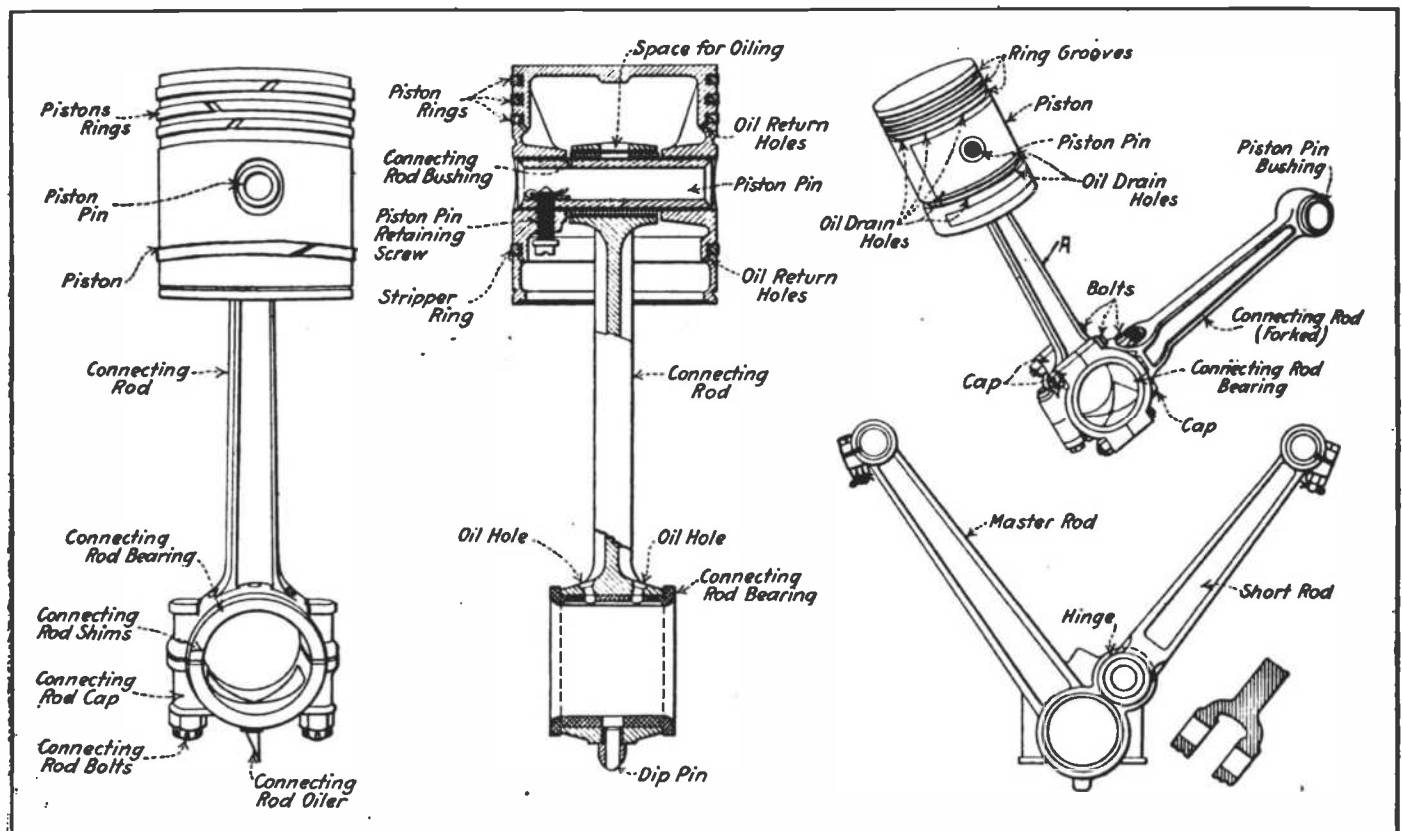
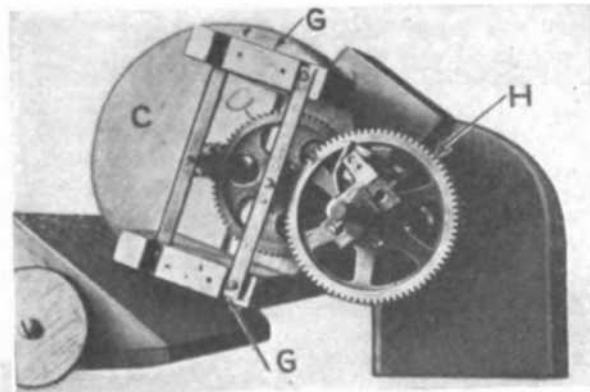

Fig. 2. Connecting rods for the usual type of engine shown at left and for V type outlined at right
Fig. 5
and is clearly shown at Fig. 2. In this one or two bolts are employed at each side and the cap must be removed entirely before the bearing can be taken off of the crank pin. The tightness of the brasses around the crank pin can never be determined solely by the adjustment of the bolts, as while it is important that these should be drawn up as tightly as possible the bearing should fit the shaft without undue binding, even if the brasses must be scraped to insure a proper fit. The marine form of connecting rod usually has a number of liners or shims interposed be-
necting rod arrangement are shown at Fig. 2. In the example at the top of the illustration, one connecting rod has a forked end which encircles the main crank pin bushing. These ends are of the usual marine type, straddling the big end of the other rod which is free to oscillate on the crank pin bushing. Care must be taken to fit rod A in such a manner that it will be clamped tightly around the end of the main crank pin bushing so that member will move in unison with rod A. The method outlined in the other view uses a master or main rod of the conventional pat-
In fitting new brasses there are two conditions to be avoided, these being outlined at Fig. 2, C and D. In the case shown at C the light edges of the bushings are in contact, but the connecting rod and its cap do not meet. When the retaining nuts are tightened the entire strain is taken on the comparatively small area of the edges of the bushings which are not strong enough to withstand the strains existing and which flatten out quickly, permitting the bearing to run loose. In the example outlined at D the edges of
The hub on which the disc revolves is shown in Fig. 2, and is 1 in. long and 1/2 in. outside diameter with an 1 1/4-in. flange at one end. The writer was fortunate enough to find a portion of an old "floor push," such as is used
The photograph, Fig. 5, shows the arrangement of gears by which the fan is driven. A cast-iron pinion ($\frac{7}{8}$ in. diameter, $\frac{3}{8}$ in. face, 20 pitch, bore $\frac{3}{8}$ in.) is reamed out a trifle and driven on the end of the fan spindle to a point $\frac{1}{4}$ in. from the end. It should fit tightly on the spindle. The gear (G) which drives this pinion is $3\frac{1}{2}$ in. diameter and the same face and pitch as the latter. It revolves on a spindle $1\frac{1}{2}$ in. long with a $\frac{1}{8}$ -in. gudgeon at each end, $\frac{3}{8}$ in. long. The diameter of the spindle will be $\frac{1}{2}$ in., as stock gears of this size are usually so bored,
Fig. 1 is undoubtedly the first practical strut fitting. They were used on the early Wright machines due to the necessity of a flexible attachment to permit the warping of the wings for lateral stability of the Wright machine up to 1912. These fittings were crude possibly, but very serviceable. They not only permitted a ball and socket strut movement but were also used as flying, landing and drift wire anchorages. These will be described more fully in proper sequence. Fig. 2 represents the Curtiss early type and a natural introduction by a bicycle and motor cycle expert. The cast aluminum alloy fitting was employed by many amateurs and some factories during 1911. Strap steel fittings, such as shown at Fig. 5, were much in evidence at Nassau Boulevard and at Mineola, L. I., up to 1912.
Figs. 5 and 6 are representative of the control hinges and are so simple that they require no further explanation. A very simple hinge may be made by using a 20 gauge plate fashioned like a strap hinge (Fig. 25), but instead of doubling the ends carry one thickness above and one below the attachment using 2 1/8 inch bolts for clamping. These simple control hinge fittings were used very extensively and satisfactorily in the early days, even on the large Farman machines.